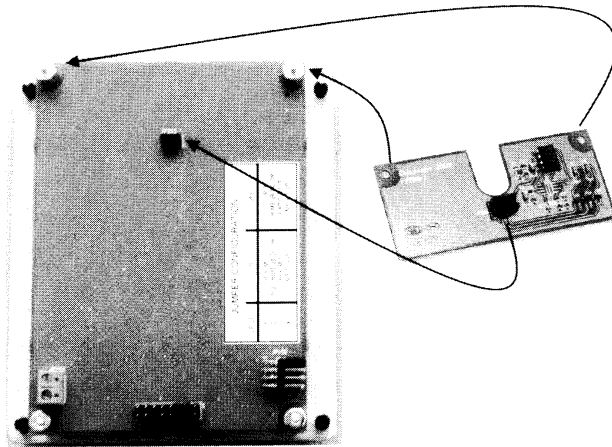

Figure 10 - Install Door Chime
- Place the Door Chime circuit board on the rear of the Intercom Module so that the two mounting holes on the Door Chime circuit board are seated on the Intercom Module threaded mounting studs (see **Figure 10**).